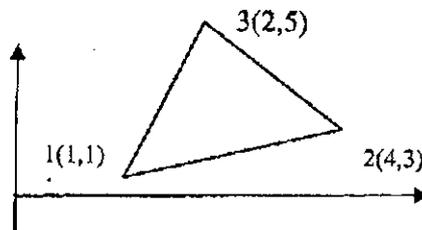

Fig. 15 (a)
15. (a) For a triangular element shown in figure 15 (a), compute the stiffness matrix by using isoparametric formulation and numerical integration with one point quadrature rule. $E = 2 \times 10^3 \text{ kN/cm}^2$, $\mu = 0$.